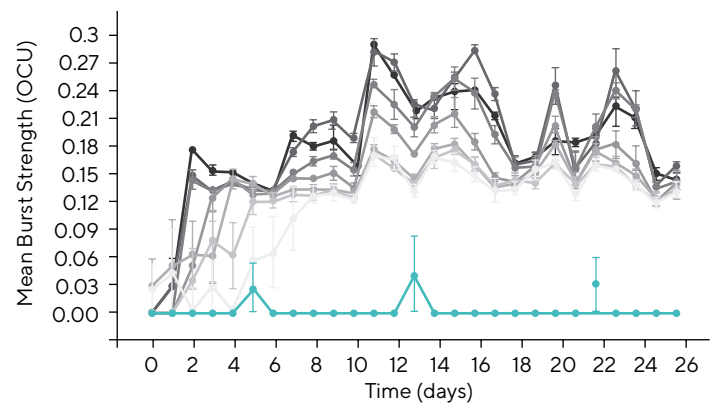

Figure 2
- Figure 2 shows the results of a Neuroburst Orange Lentivirus optimization experiment on iPSC-derived neurons. Active object count, mean correlation, mean burst rate, and mean burst strength are shown.